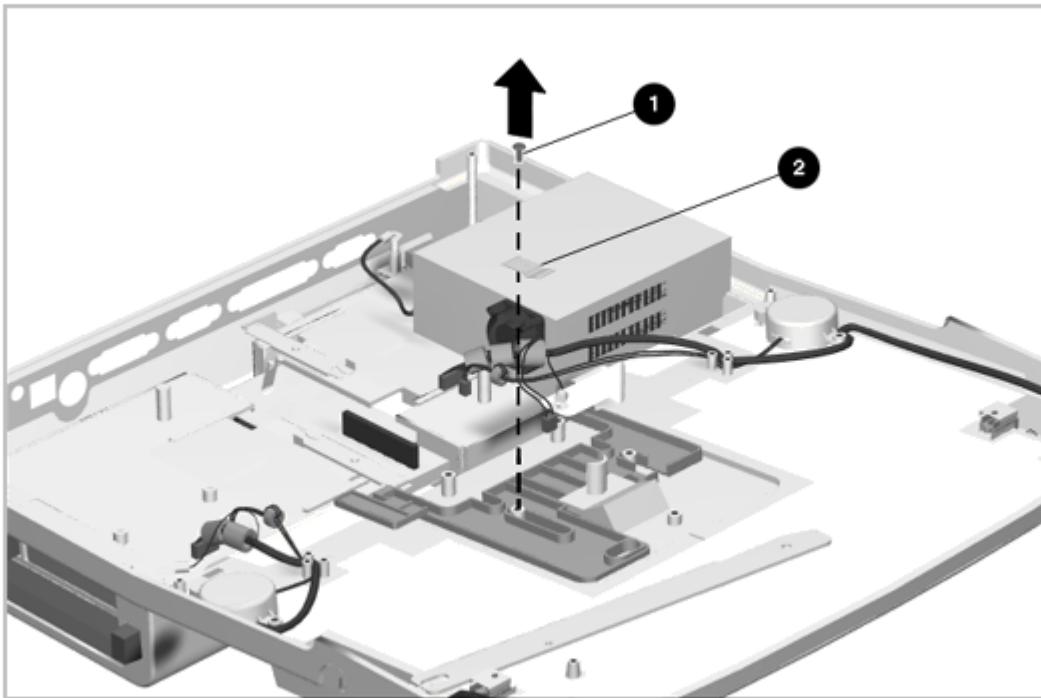

Figure 6-33. Removing the Puller Plate Spring
6. Remove the screw from the spring and lift the spring out (Figure 6-33).